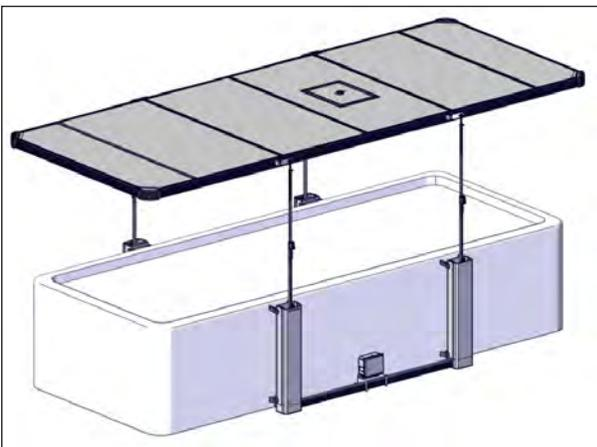

FIGURE 126: JACK RAISING
6. Raise the jacks until the system stops at its maximum limit, see Figure 126.